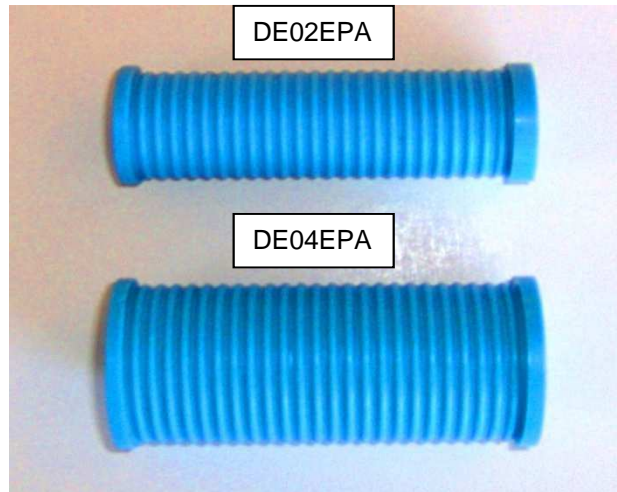

Figure 25
12.2 Use 2-Tube End Plate Adapter (DE02EPA) for oblong 2-tube cables. Use 4-Tube End Plate Adapter (DE04EPA) for square 4-tube cables. **See Fig. 25.**